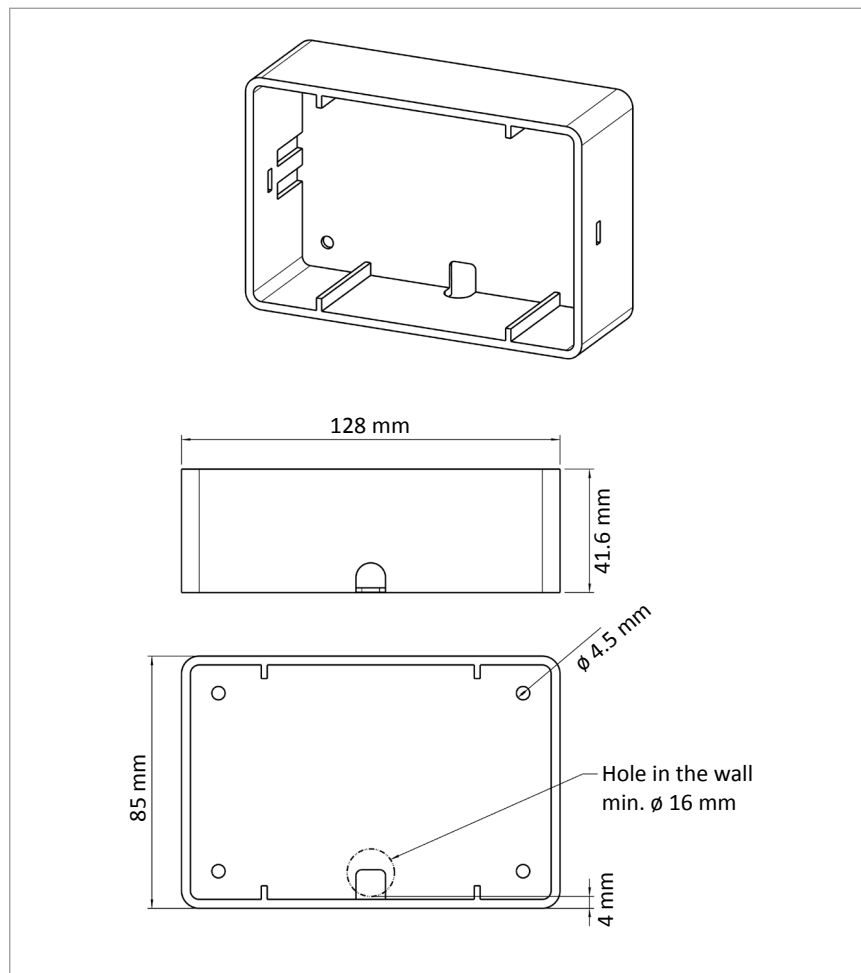

Fig. 8: Measurements of the wall-mounted housing
2. Bore hole (Ø 16 mm) for cable routing according the dimensions in Fig. 8.